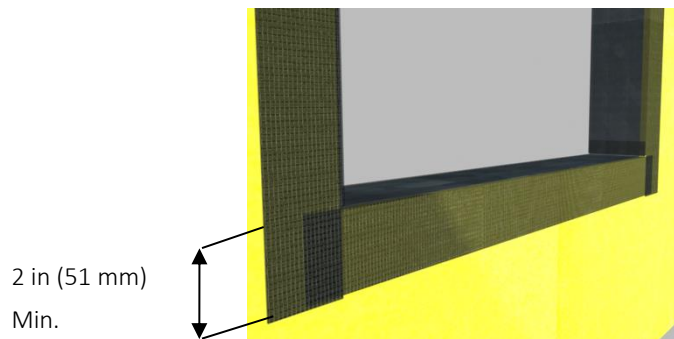

Figure 3
- 4) Install the AquaFlash System at the jambs in the same manner, overlapping onto the sill material a minimum of 2 in (51 mm) – Figure 3.